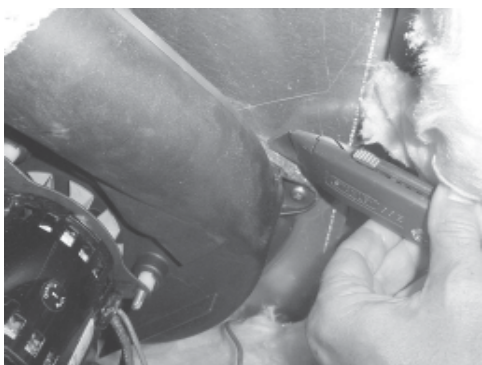

Figure 2-4
5. Cut seal around the plastic housing and pull blower from unit (Figure 2-4).